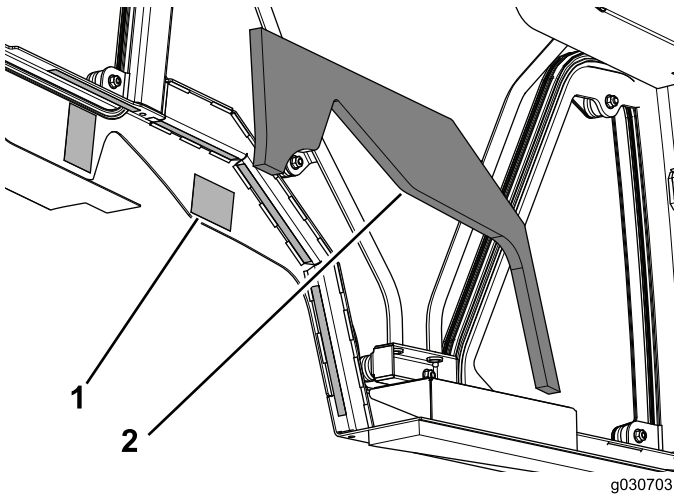

Figure 13
3. Remove the paper backing from the double-faced tape on both sides of the cab unit (Figure 13).
4. Apply the left side foam to the cab unit (Figure 13).